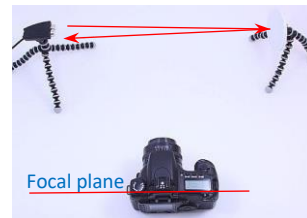

Figure 6: Setting up the camera
- Place the camera with the image plane parallel to the light beam, see Figure 6.